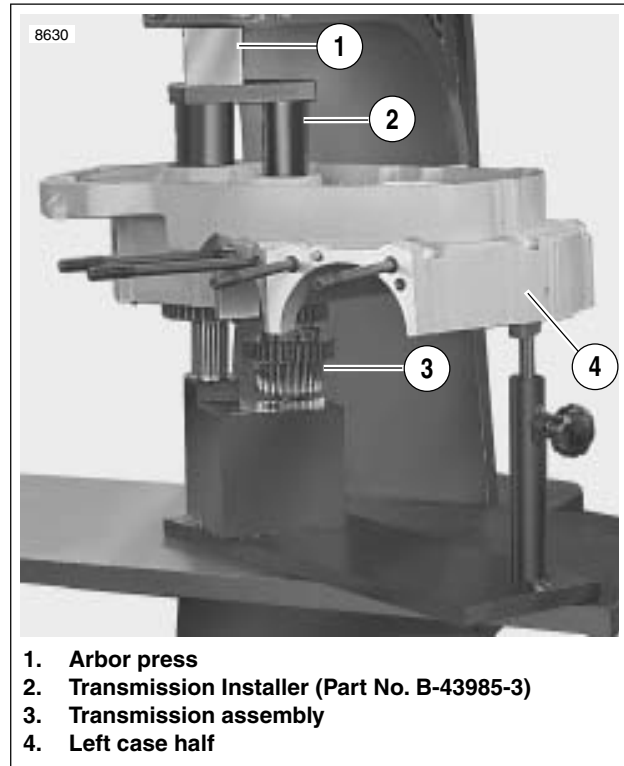

Figure 6-84. Installing Transmission in Left Case Half
3. See Figure 6-84. Place left case half over transmission assembly and install TRANSMISSION INSTALLER (Part No. B-43985-3) into crankcase.
4. See Figure 6-84. Press crankcase onto transmission assembly into until it bottoms out.